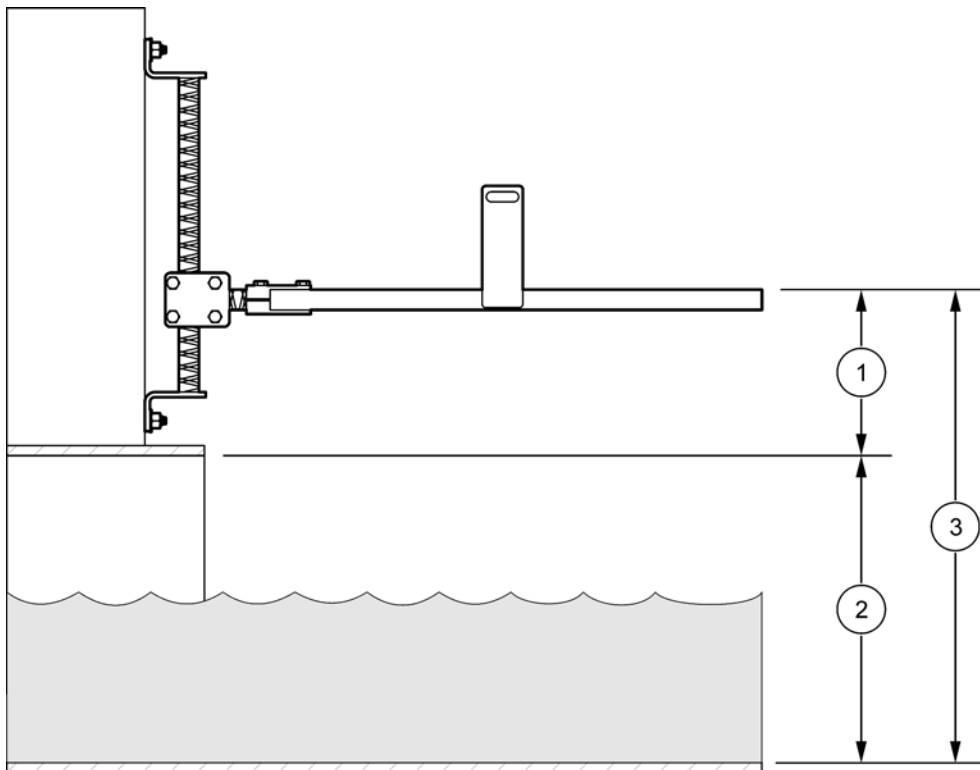

Figure 16 Sensor offset
1. Put the rod in the bottom of the pipe or channel and align it vertically with the frame (Figure 16).
Note: If it is not practical to measure to the bottom of the pipe, measure the distance from the crown of the pipe to the top of the frame (Figure 16). Add this distance to the pipe diameter to get the sensor offset ($\text{sensor offset} = \text{pipe diameter} + \text{distance from crown of the pipe to top of frame}$).